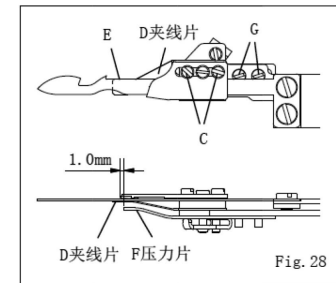

Fig. 28
2. 夹线片 (D) 之边沿须与活动刀右边刀口内沿切齐, 如 (E) 可由螺丝 (C) 调整。压力片 (F) 前端与固定刀前端之距离约为 1mm, 调整时, 可放松螺丝 (G) 移动压力片 (F)。(图 28)
2. The edge of Clamp Spring (D) align with the inside edge of Moving Knife of right hand side hook (E). Please loosen the screw (C) to adjust the position of Clamp Spring and Fixing Knife. The distance between the top of Clamp Spring Pressure and top of Fixing Knife is about 1mm. Please loosen the screw (G) to adjust the position of Clamp Spring Pressure. (Fig. 28)